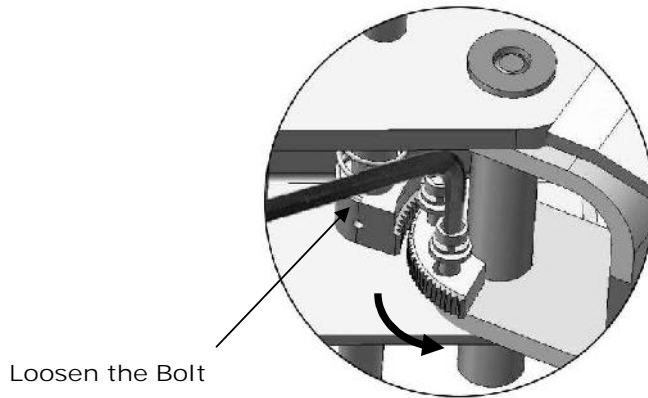

Fig. 32
1. Install the Lifting Arms (See Fig. 32).